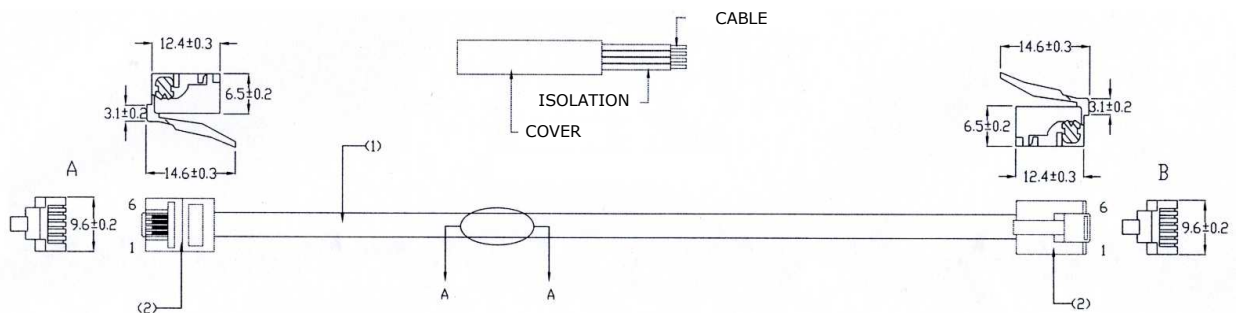

Figure N.4 – Cable structure
2. Put connectors of the connecting cabling into their counterparts (supplied with the inverter – figure N.4) between the remote control and inverter until you hear „click”.